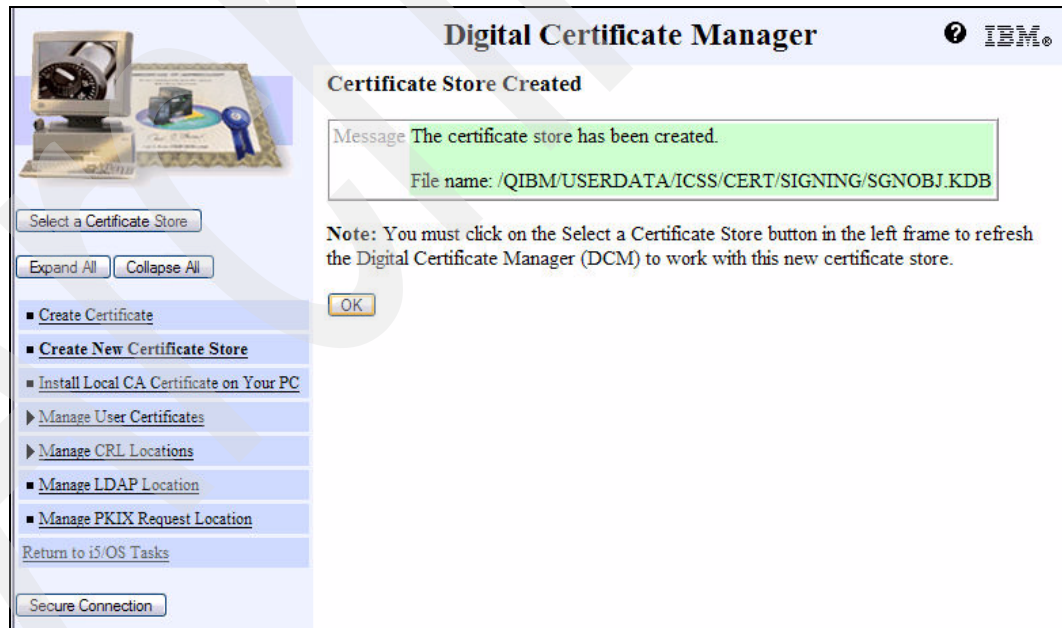

Figure 7-40 DCM Certificate Store Created screen
- After clicking **Continue**, the following confirmation message in Figure 7-40 shows the successful creation of the new *OBJECTSIGNING certificate store.